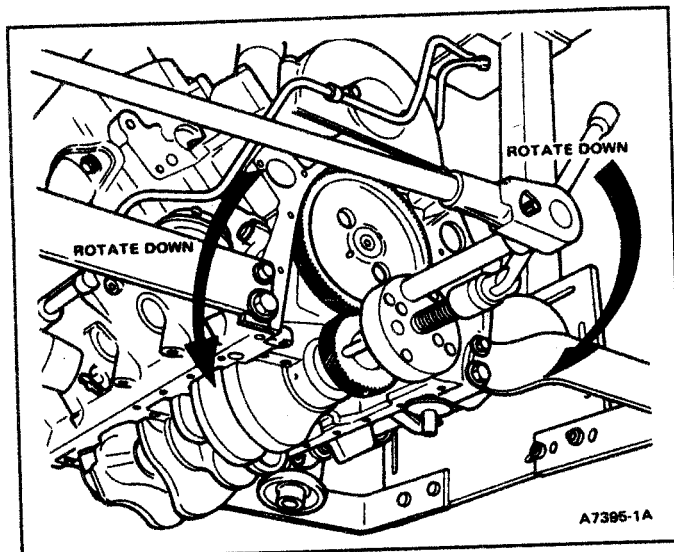

FIG. 40 Crankshaft Drive Gear Removal
15. Install crankshaft drive gear remover Tool T83T-6316-A, and using a breaker bar to prevent crankshaft rotation, or flywheel holding Tool T74P-6375-A, remove crankshaft gear (Fig. 40).